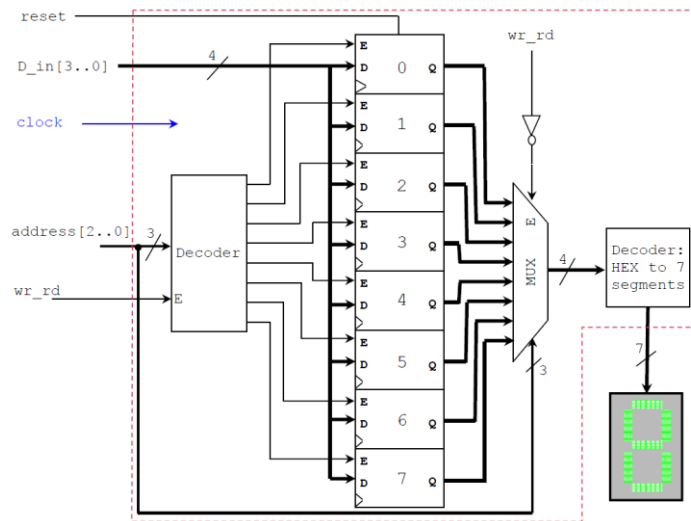

Figure 1
1. Write a source VHDL to describe the circuit in Figure 1 (2 marks)